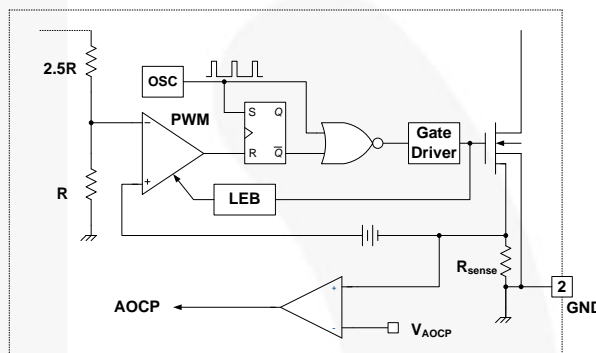

Figure 35. AOCP Block
4.2 Abnormal Over Current Protection (AOCP): When the secondary rectifier diodes or the transformer pins are shorted, a steep current with extremely high di/dt can flow through the SenseFET during the LEB time. Even though the FSCQ series has OLP (Overload Protection), it is not enough to protect the FSCQ series in that abnormal case, since severe current stress will be imposed on the SenseFET until the OLP triggers. The FSCQ series has an internal AOCP (Abnormal Over-Current Protection) circuit as shown in Figure 35. When the gate turn-on signal is applied to the power SenseFET, the AOCP block is enabled and monitors the current through the sensing resistor. The voltage across the resistor is then compared with a preset AOCP level. If the sensing resistor voltage is greater than the AOCP level, the set signal is applied to the latch, resulting in the shutdown of SMPS. This protection is implemented in the latch mode.